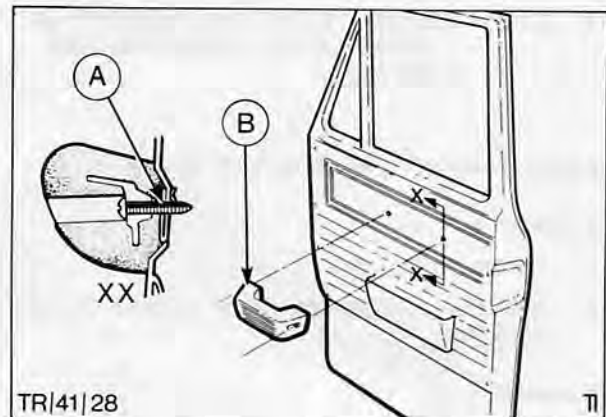

Fig. 20. Door trim panel
1. Remove door trim panel Fig. 20, and plastic sheet.